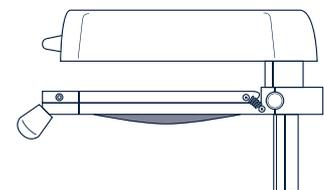

Fig. 6
6. Heat until the plate sags by 1.5 to 2 centimetres (Fig. 6).